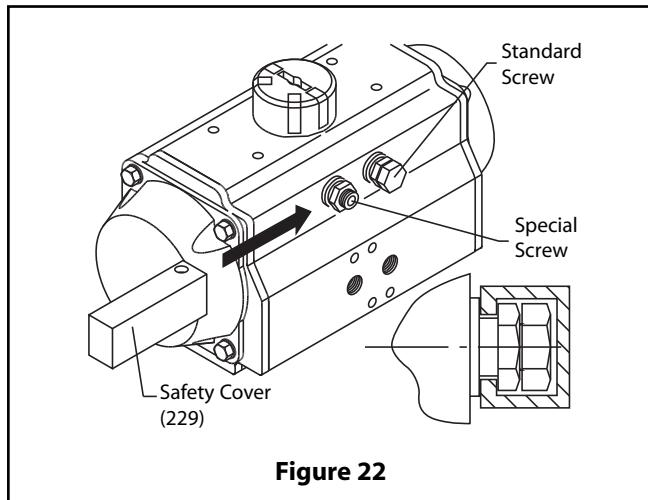

Figure 22
- B. Insert the special longer screw (226) and the standard screw (02) into the actuator body until the desired lock position is achieved then tighten the special nut (228).
- A. Slide the safety cover (229) between the special nut (226) and washer (03) on both the special longer screw (226) and the standard screw (02) as shown in (Figure 22).